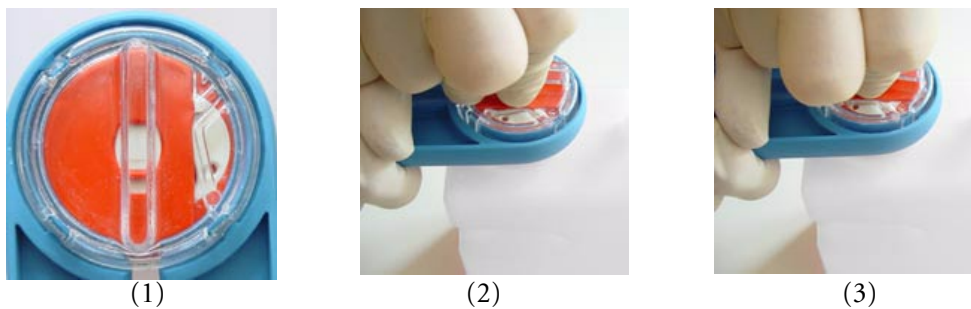

Fig. 24
- To do this, place the bottle tool on the screw cap of the C1 or C2 (Fig. 24/1).
- Press the grips together and press the transparent disk downward (Fig. 24/2).
- Rotate the transparent disk in the clockwise direction. Stop when you notice (after a short distance) resistance (Fig. 24/3).